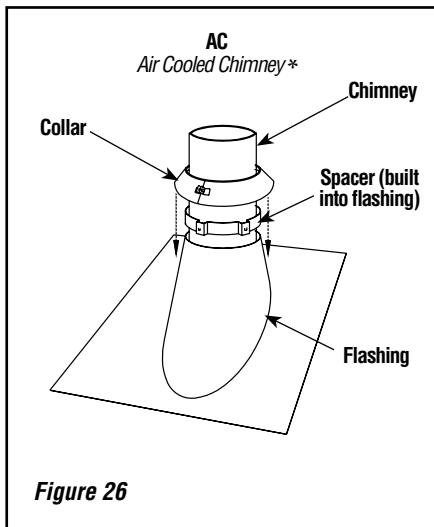

Figure 26
5. Then, put the roof flashing in place and seal the joint between the roof and the flashing with roofing pitch (see **Figures 26 and 27**). For sloping roofs, place the flashing under the upper shingles and on top of the lower shingles. Nail the flashing to the roof, using roofing nails.